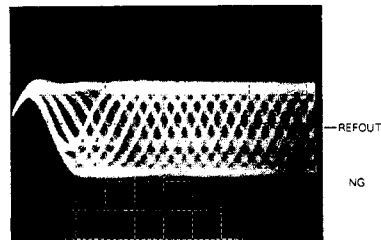

Fig. 17
2. Adjust the tangential adjustment screw so that the RF wave-form will have a level maximized and an eye pattern clearly viewed. Turn the adjustment screw both clockwise and counterclockwise to points where the eye pattern deteriorates, and take the midway point as the adjustment point. As a general guide, look for an overall clear wave-form, and one of the diamond shapes in the eye pattern. The diamond shapes should appear in fine lines at the point of optimum adjustment. Take care not to knock the pick-up with the screwdriver at this stage. (This kind of accident can result in loss of focus.) (See Fig. 17, 18)